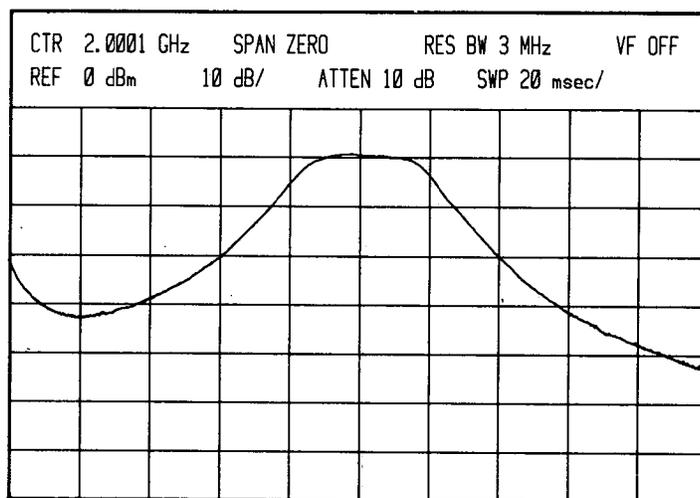

Figure 5-51. YTF Passband Display
- d. Perform corresponding **YTF** tracking adjustment to center passband (10-dB points) on spectrum analyzer CRT display (Figure 5-51). Ensure that at least 25 percent of passband is on each side of center vertical graticule line.